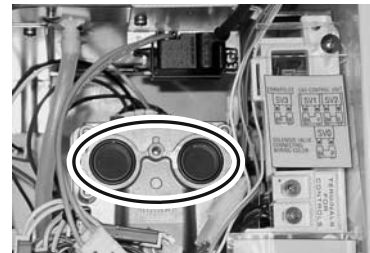

Figure 43
27. Make sure that the two black packings (Figure 43) are intact on the gas control assembly. Attach the gas manifold with 3 machine screws at the gas control assembly. Replace the lower and upper packings (included in kit) for the manifold plate removing any residue.